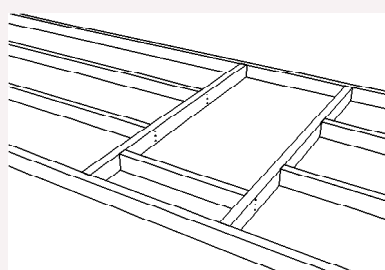

fig 3
2. Using timber of a compatible size to the existing ceiling framing, ie 100 x 50 or 150 x 50 H1 treated, machine gauged radiata pine, frame up the opening. It may be necessary to cut through some existing ceiling joists to achieve the required size. Ensure these are properly supported during and after cutting. Three possible arrangements are shown in figures 3, 4 and 5.